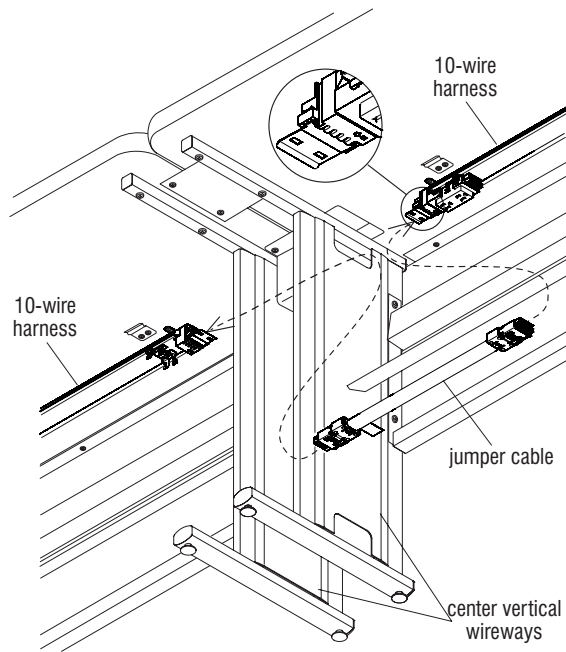

Figure 4
13. To connect power between worksurfaces, the power/data door must be un-clipped from the underside of ganged worksurfaces. The 10-wire harnesses can then be accessed to connect power between worksurfaces. Route the jumper cable through access holes of vertical wireways and table-to-table wireway. Plug each end of jumper cable into the ends of the 10-wire harnesses (Figure 4).